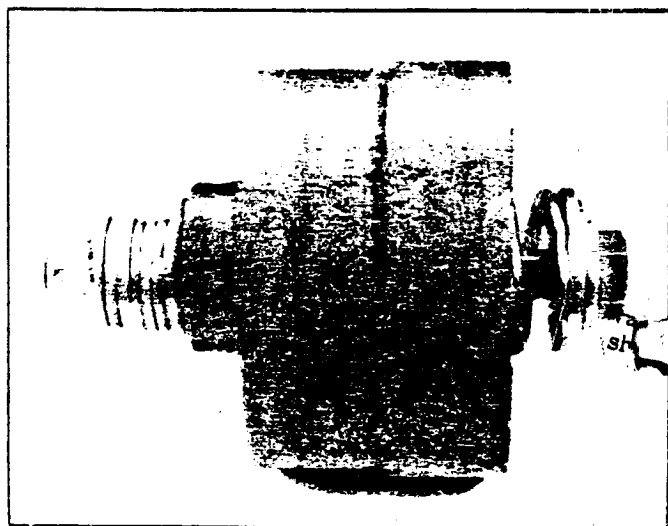

Figure 16. Cylinder block subassembly disassembly tool. (Tighten nut, remove snap ring, loosen nut to relieve spring tension).
The spring located within the cylinder block S. A is under a high tension and can cause bodily harm if the retaining ring is removed. See Figure 16 for disassembly instructions.
6. Remove six mounting screws (20) and remove housing #2 from the valve block.
7. Remove bearing (25) and bearing spacer (26).
9. Assemble the spring, two washers and retaining ring into the cylinder block. See Figure 16 for instructions. Set the cylinder block S/A (27) face on a flat clean surface. Use kraft paper between the block and surface to prevent scratching the cylinder block face.
10. Install pin retainer (32) into cylinder block. Position the pin retainer approximately 1/4" below the surface, and orient the open end of the pin retainer to be away from the large spline openings.
11. Slide the three pins (31) into cylinder block S/A (27) until they bottom against the spring washer within the block.
12. Place spherical washer (30) on top of the three pins; then install shoe plate (29) with nine piston and shoe subassemblies (28) over spherical washer (30) and into the cylinder block. Wobble shoe plate (29) to make sure that each piston is free within its bore in the cylinder block.
13. Set housing #2 (21) on its side and hold vane pump shaft (19) so intermediate shaft (42) is horizontal. Slide rotating group into the housing. Rotate the shaft to match the shaft splines to the cylinder block and spherical washer.
14. Remove vane pump shaft (19) and set housing #2 on a flat surface with vane pump end pointing down.
15. Install bearing spacer (26) with chamfer toward the shoulder of shaft.
16. Install tapered roller bearing (25) over the shaft and against the spacer. The small diameter of the roller bearing must face up, (toward the valve block end).
17. Install two (2) housing alignment pins and place a new gasket (24) over them. Cover the unit and set aside for final assembly.